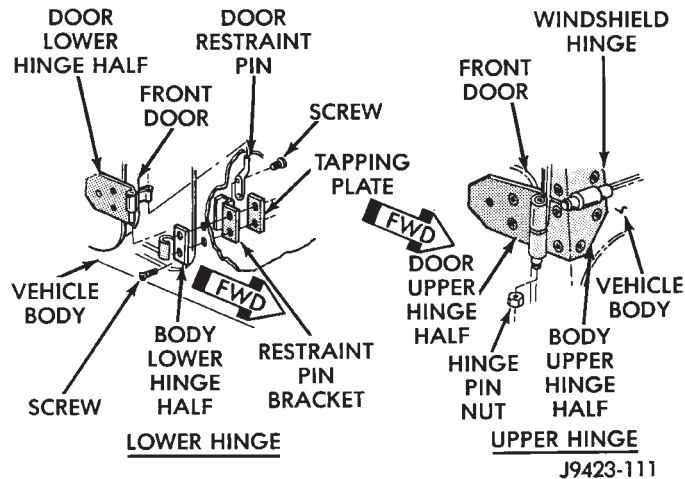

Fig. 16 Door Hinges
(2) Remove the hinge-to-body screws and the hinge-to-door screws (Fig. 16). Remove the hinge from the door and body.
The upper hinge is also part of the windshield hinge (Fig. 16). When replacing it, support the windshield frame with an appropriate device prior to removal. Inspect the windshield alignment after hinge installation.
(3) Clean the replacement hinge with an appropriate solvent and dry it with compressed air.
(4) Color-coat the hinge to match the vehicle body with MOPAR exterior spray paint, or an equivalent product.
(5) Lubricate the hinge with spray lubricant.
(6) Position the hinge on the door, align carefully with the wax pencil installation alignment reference marks, and install the retaining screws (Fig. 16).
(7) Position the hinge on the vehicle body. Align the wax pencil marks installation alignment reference marks. Install the retaining screws (Fig. 16).
(8) Inspect the door alignment. Adjust, if necessary. Refer to Door Hinges—Adjustment.
- (16) Remove the retaining nuts from the door hinge pins and remove the door from the body (Fig. 16).
- (2) Position the door at the body opening, insert the hinge pins in the hinge receptacles and install the retaining nuts (Fig. 16). Tighten the nuts securely.